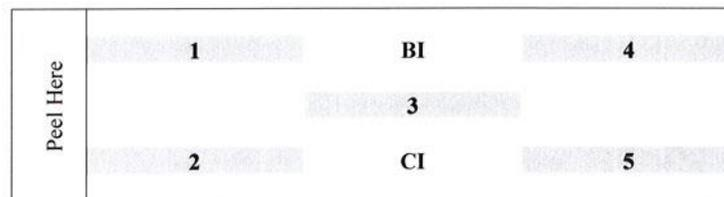

FIGURE 1
- 6.2 Each pouch was seeded with five (5) stainless steel coupons, one (1) chemical indicator and one (1) biological indicator: See Figure 1.